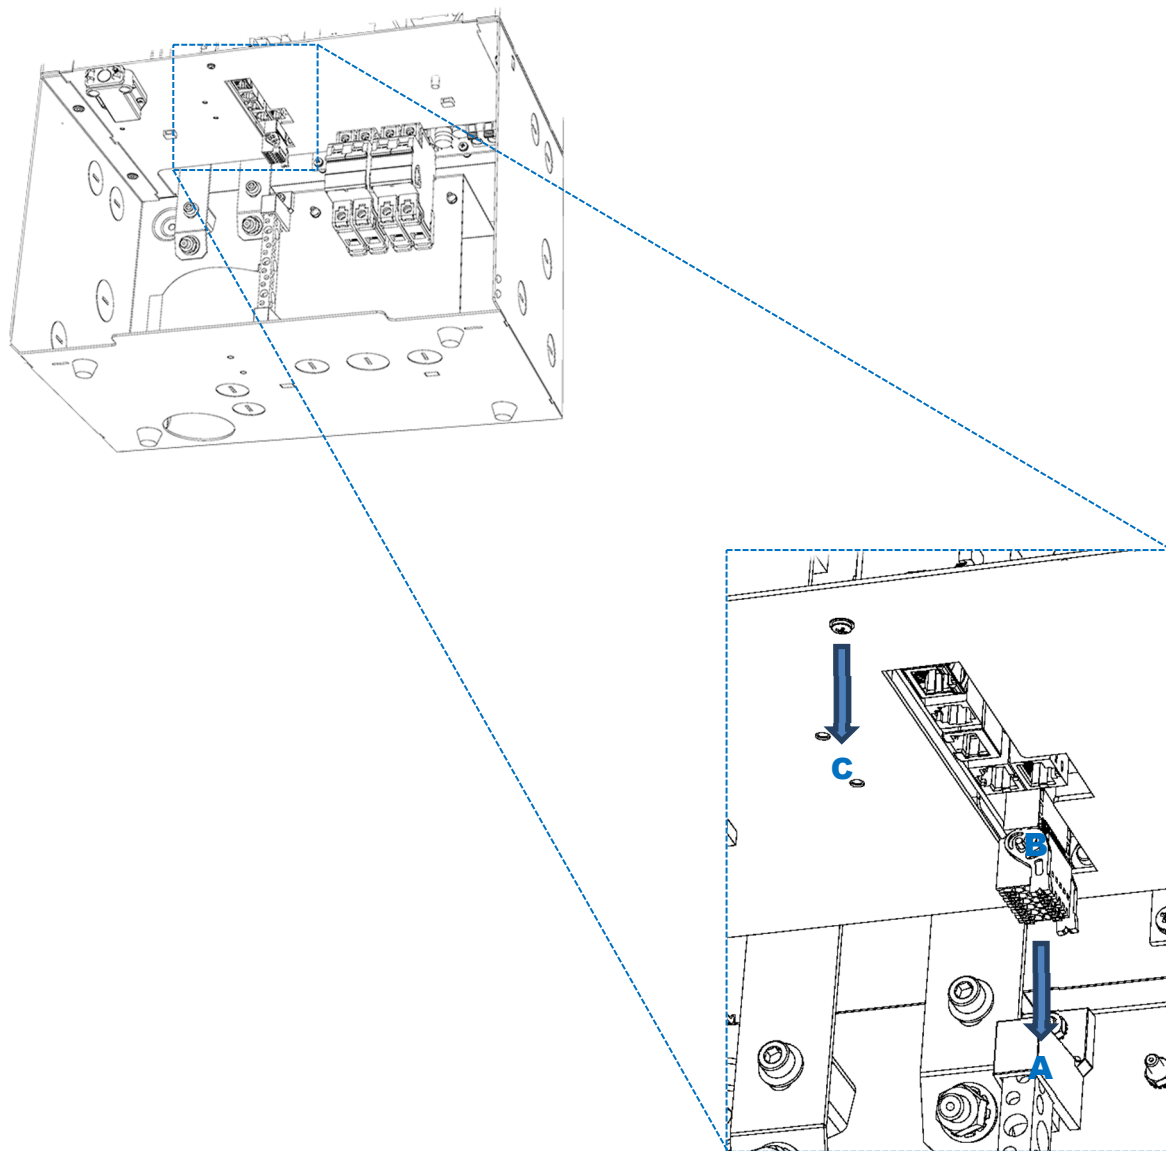

Figure 39 Control Board External Attachments
1. Remove the **Aux** terminal block from its socket. See **A** in Figure 39. Use the black levers **B** on the sides of the block to help remove it.
2. Using a #1 Phillips screwdriver, remove the securing screw for the control board. See **C** in Figure 39.
- Replace the securing screw **C**. See Figure 39 if necessary.
- Replace the **Aux** terminal block **A**. See Figure 39 if necessary.